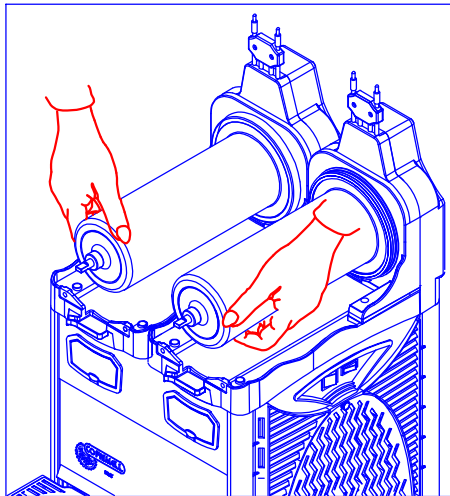

Fig. 5A
**IMPORTANT :** (Fig. 5A) during transport or lifting operations, never grab the machine from the cylinders evaporators.
**ATTENTION :** During this operations do not lift the machine from the cylindrical evaporators. ( see Fig. 5A)